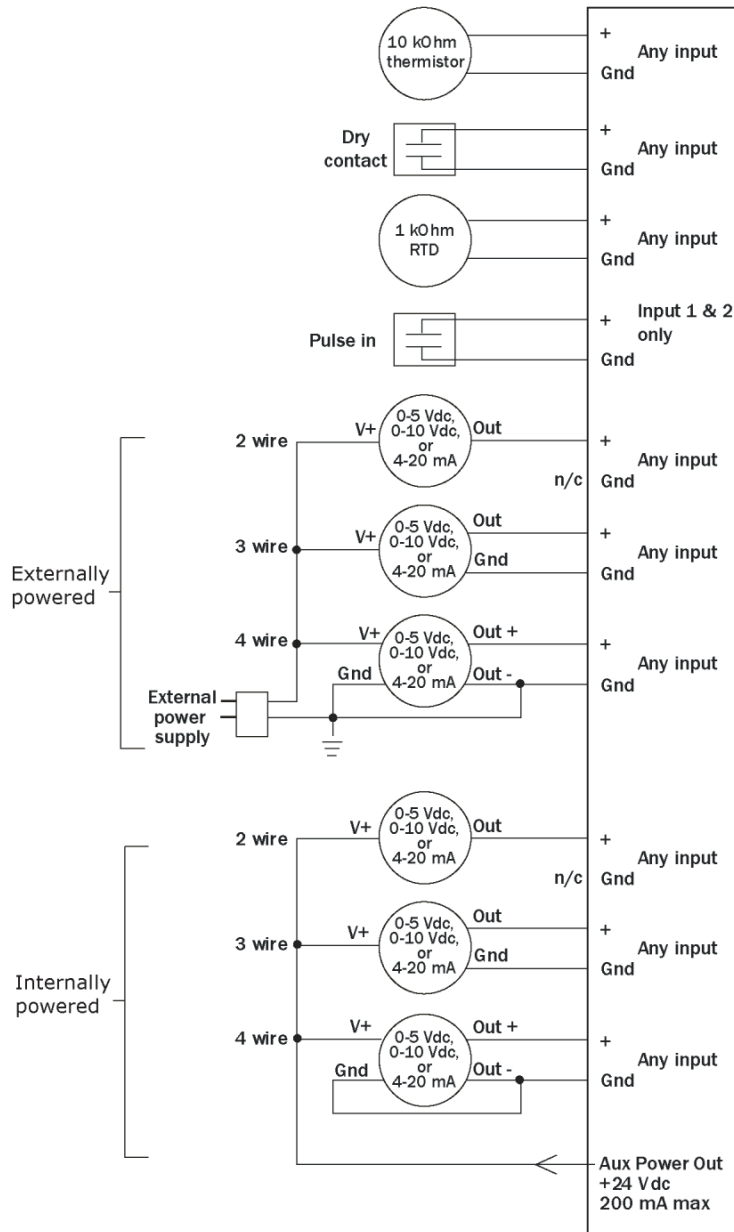

Fig. 2 — TruVu™ Typical Wiring
2. Connect the input wiring to the screw terminals on the TruVu controller (see Fig. 2).